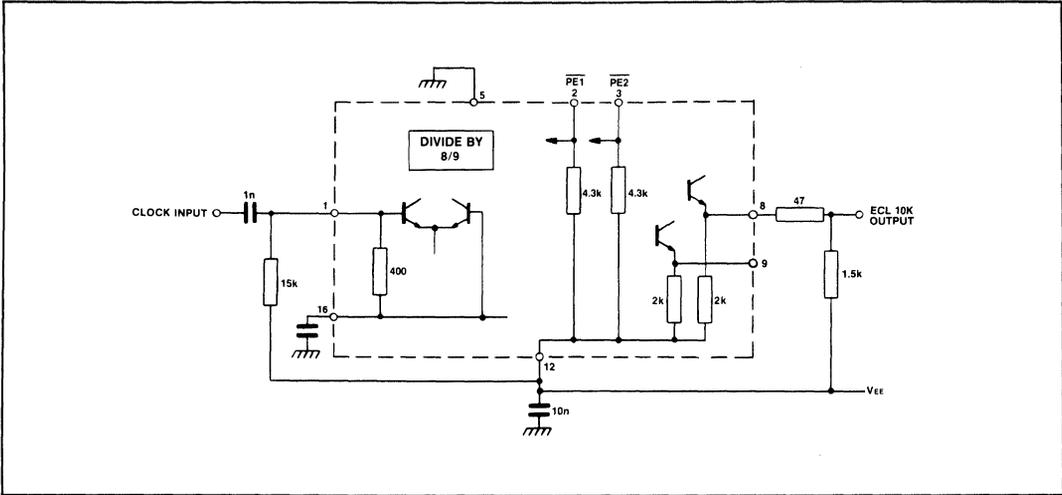

Fig.7 Typical applications circuit showing interfacing
4. The Q and  $\bar{Q}$  outputs are compatible with ECL II but can be interfaced to ECL 10K as shown in Fig. 7. There is an internal circuit equivalent to a load of 2k pulldown resistor at each output.